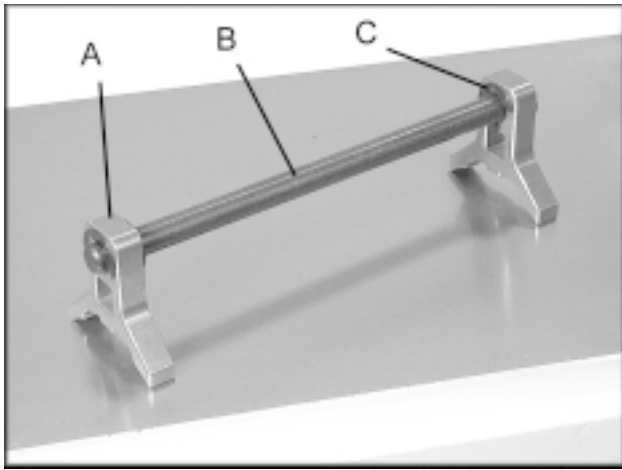

Fig. 4
1. Place the two bases (A, Fig. 4) onto each end of the bar (B, Fig. 4). Snap the four E-rings (C, Fig. 4) into the grooves on the bar as shown.